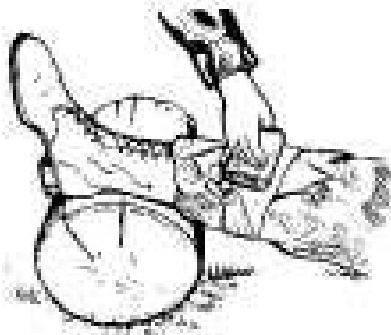

Figure 2-27. Wad of padding on top of field dressing.
- a. Place a wad of padding on top of the field dressing, directly over the wound (Figure 2-27). Keep the injured extremity elevated.